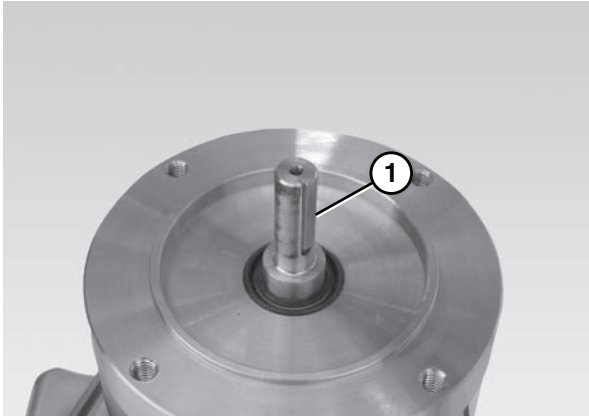

Figure 16
Ensure the gearmotor output shaft key (Figure 16, item 1) is situated properly before attaching the motor to the gear reducer.